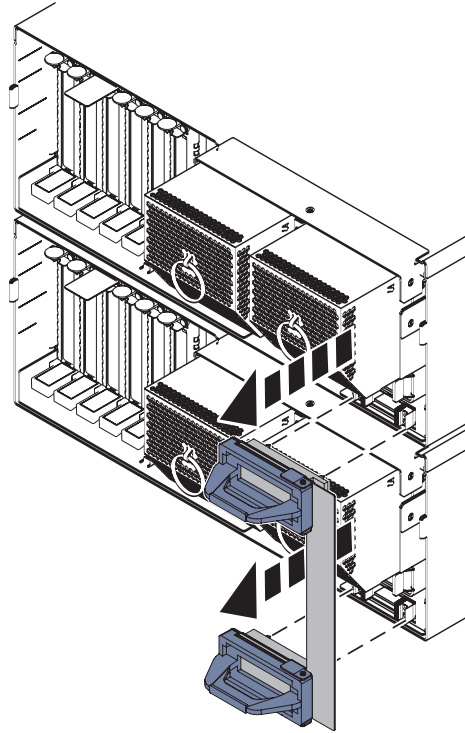

Figure 1. Model 9117-MMA service processor cable
5. Locate the service processor cable as shown in Figure 1 on page 4. The cable connects the back of one 9117-MMA system unit to another 9117-MMA system unit.